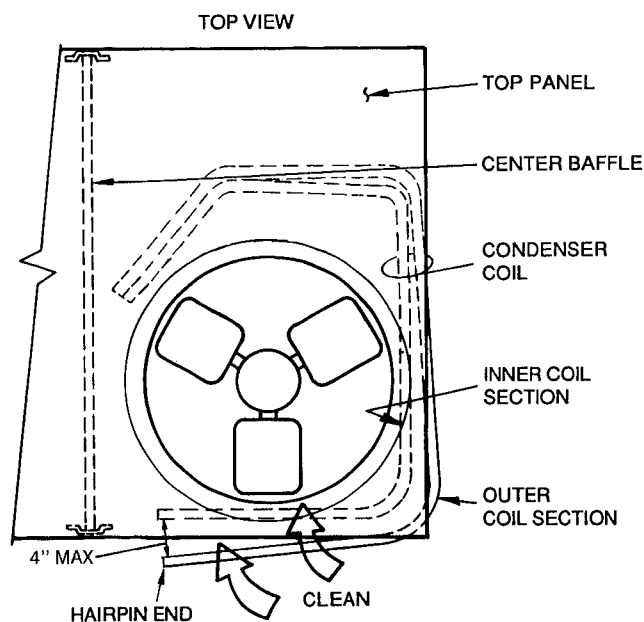

**Fig. 35 — Separating Coil Sections
5. Remove fastener holding coil sections together at return end of condenser coil. Carefully separate the outer coil section 3 to 4 in. from the inner coil section. See Fig. 35 or 36.